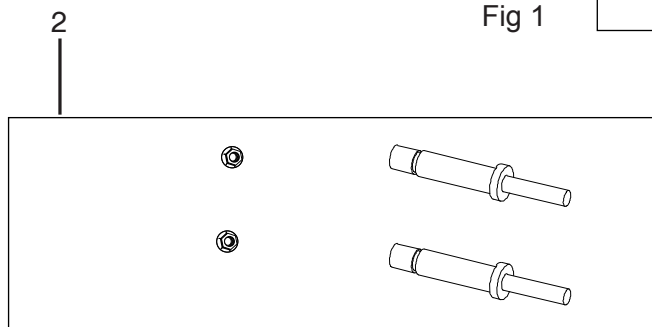

Fig 2
- 2) Two axle shaft with nuts. Fig 2